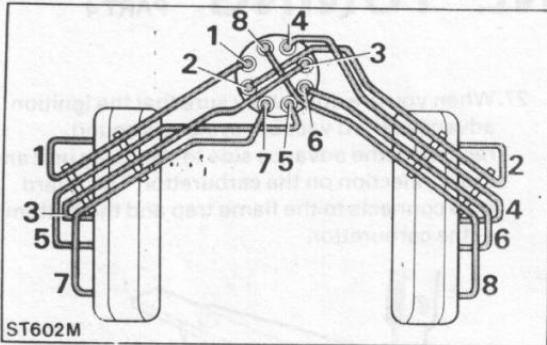

FIG. 83
28. Check the condition of the HT leads and reconnect to the plugs, ensuring that the cables are correctly routed, as seen in **Fig. 83**. Pay particular attention to the routing of numbers 5 and 7 plug leads, as simultaneous firing can occur due to electrical inductance if the leads run parallel, so make sure they are crossed. Note the firing order: 18436572 and the cylinder location. Numbers 5 and 7 cylinders are located next to one another, and also fire one after the other with only a 90° interval.